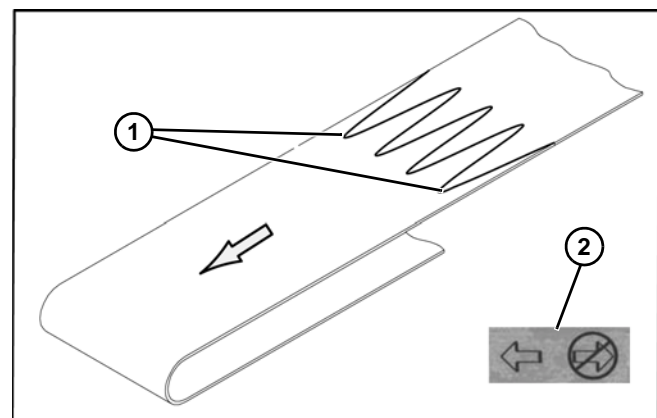

Figure 52
1. Orient belt so splice leading fingers (**Figure 52, item 1**) point in the direction of belt travel as identified by the conveyor directional label (**Figure 52, item 2**).
2. Orient belt so splice leading fingers (**Figure 52, item 1**) point in the direction of belt travel as identified by the conveyor directional label (**Figure 52, item 2**).